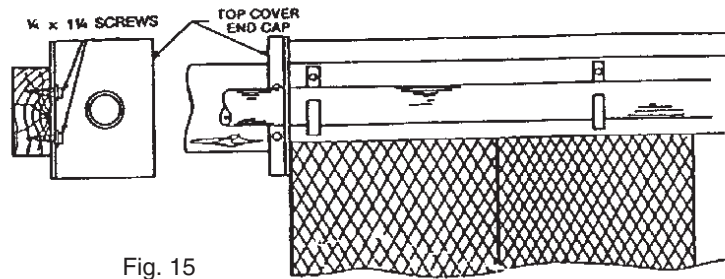

Fig. 15
4. Slip the top cover end cap over the pipe with the pipe centered in the hole. Attach to the top stringer with the two ¼" x 1¼" (.635 cm X 3.175 cm) screws provided (see Fig. 15).